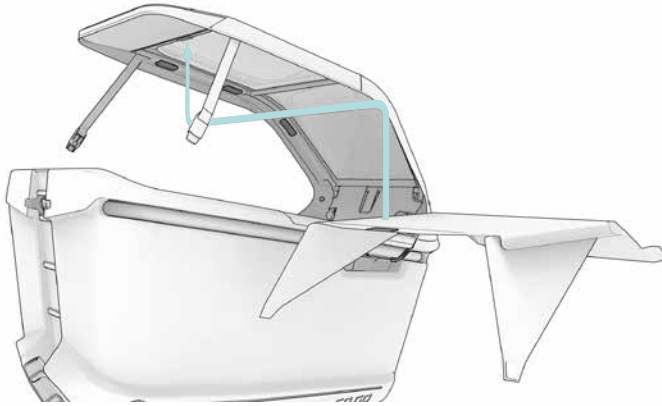

Fig. 47
Using several Velcro straps, the sun screen ① can be fastened to the inside of the All-Weather-Top in various positions (Fig. 47).